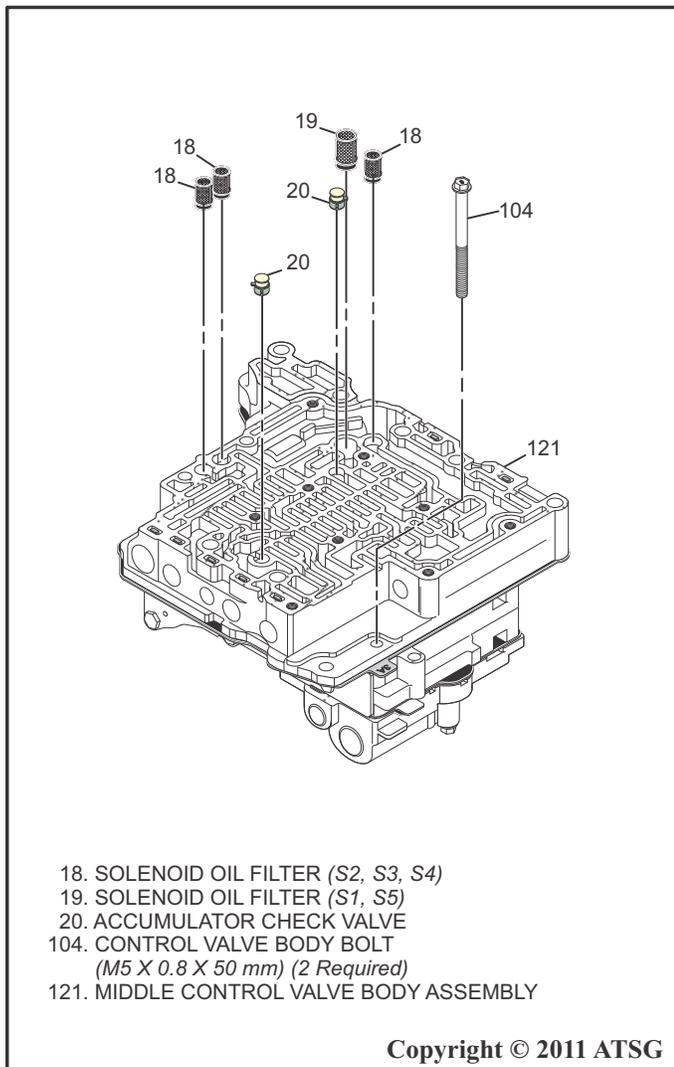

Figure 172
47. Install the S1 and S5 oil filter into the middle control valve body as shown in Figure 172.
48. Install the two accumulator check valves into the middle control valve body and then install the control valve body attaching bolt and hand tighten only as shown in Figure 172.